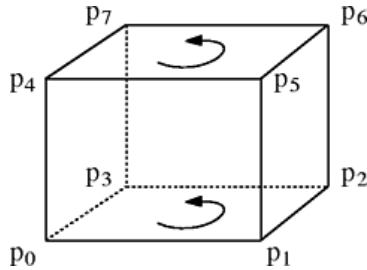

Figure 5.3: Numbering of points in a hexadron with positive volume.
- The `hexas` array describes the actual hexahedra. For each hexahedron the indices of the eight points and the indices of the six faces it consists of are stored. The numbering of the points is shown in Figure 5.3. Degenerate cells such as prisms or tetrahedra may be defined by choosing the same index for neighboring points.